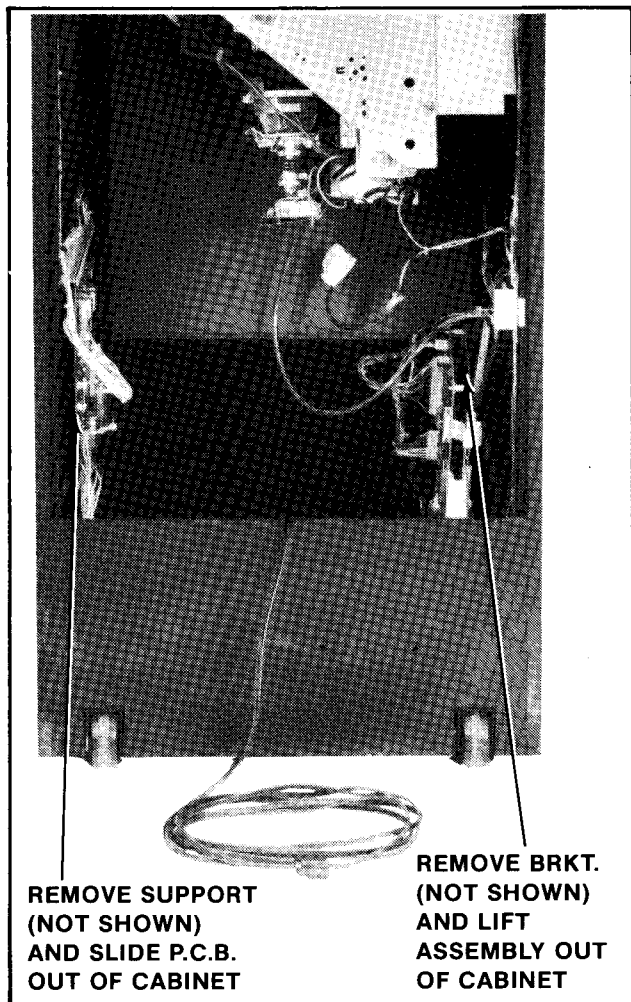

Figure 4-12 Replacing P.C.B.s — Upright
### 1. UPRIGHT MODEL: See Figure 4-12.
- Disconnect the power supply board from all its cabling, remove the P.C.B. supports indicated in Figure 4-12, and slide it out the back of the cabinet.